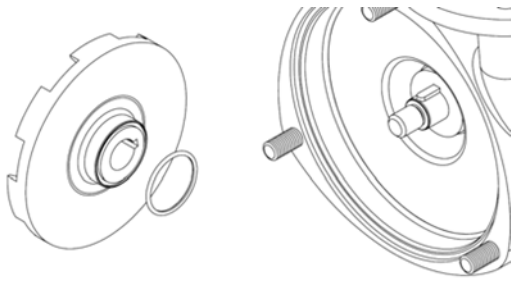

Figure 15
7. Before installing the impeller lubricate the impeller o-ring so it will stay in the impeller o-ring while installing the impeller (SB Blenders only). Slide impeller onto the shaft and over the key. Push impeller against the seal driver or shim (SB Blenders). See Figure 15.